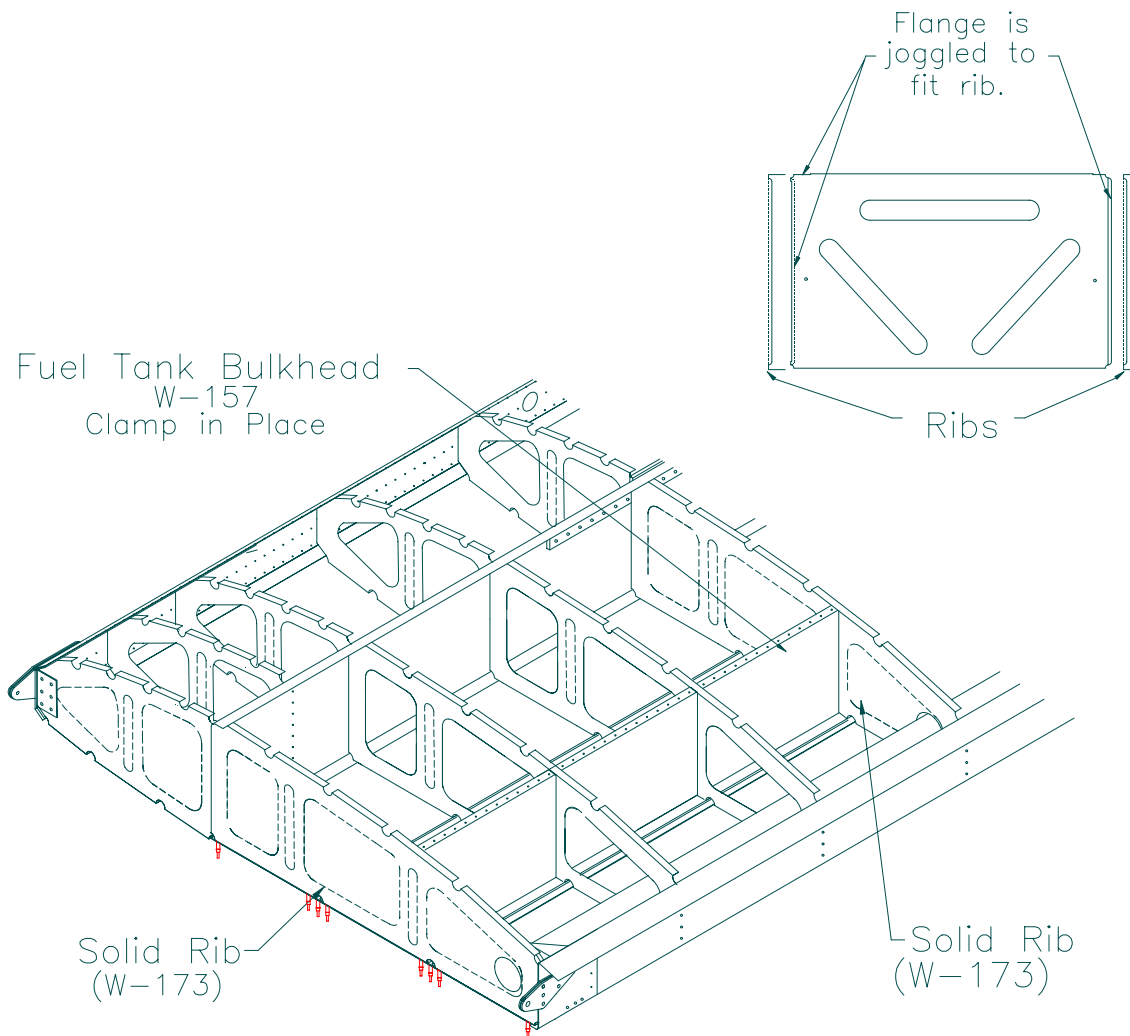

Figure 8.17.4
**Note:** The side flanges of the Bulkheads are joggled to fit the stiffening beads in the Wing Ribs. Be sure that the Bulkheads are properly seated in the Ribs, i.e.; the center of the Bulkhead side flanges must line up with the center of the Wing Rib beads. The two Bulkheads with the drilled sides should be in bays #1 and #3. Figure 8.17.4.